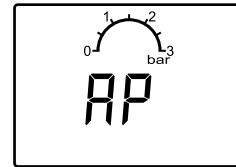

FIGURE 2.
- 7.1 Switch the mains power on and the LED display will show “AP” (Air Purge). This puts the heater into the Air Purge mode (this process lasts 2 minutes). See Figure 2 and check Section 15.3 in the Installation, Commissioning and Servicing Instructions. This process can be skipped by pressing K4 (Reset).